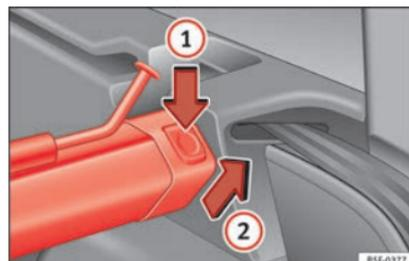

Fig. 125 In the luggage compartment: removing the net partition.
- Press the left or right release catch »» Fig. 125 ①.
- Remove the casing from the support in the direction of the arrow »» Fig. 125 ②.
- Press the casing into the left and right supports in the opposite direction to the arrow »» Fig. 125 ② until it engages.